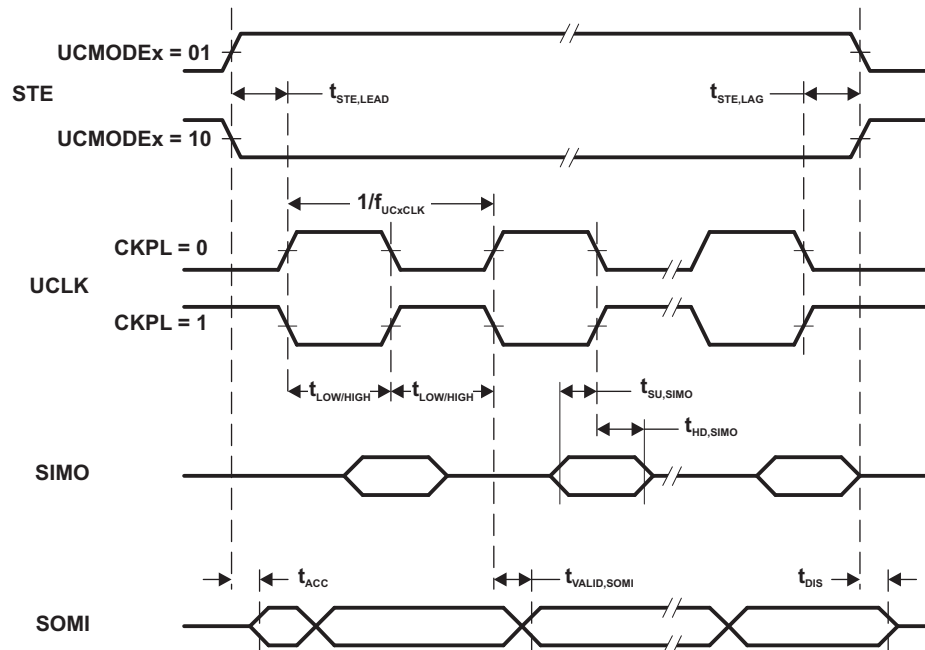
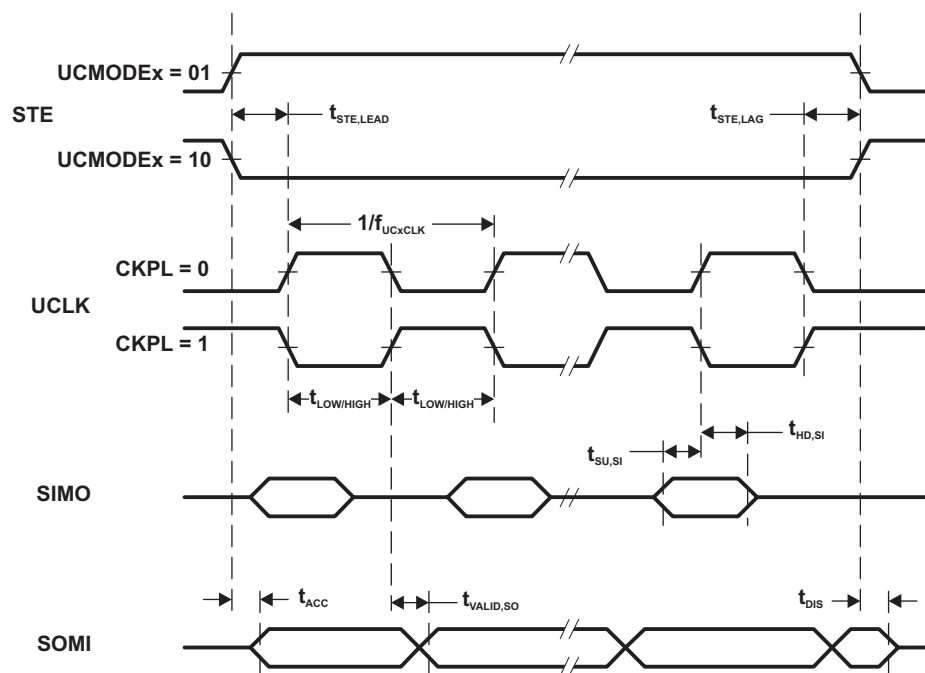

Figure 4-8. SPI Slave Mode, CKPH = 0
Figure 4-9. SPI Slave Mode, CKPH = 1
(2) Specifies the time to drive the next valid data to the SOMI output after the output changing UCLK clock edge. See the timing diagrams in Figure 4-8 and Figure 4-9.
(3) Specifies how long data on the SOMI output is valid after the output changing UCLK clock edge. See the timing diagrams in Figure 4-8 and Figure 4-9.